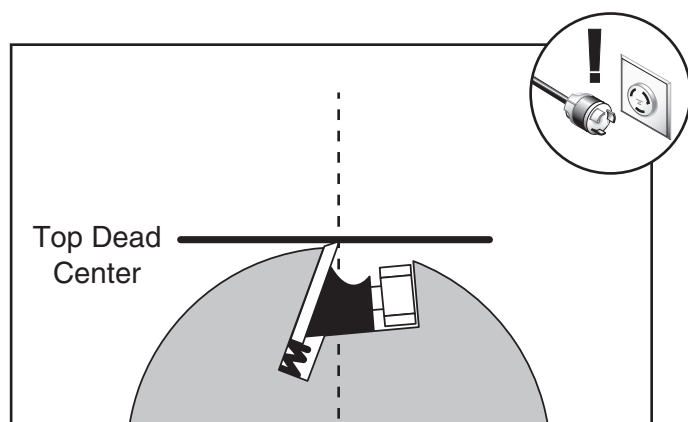

Figure 11. Cutterhead knife at top-dead-center.
3. Open the motor access panel and rotate the cutterhead pulley until one of the knives (or carbide inserts) is at top-dead-center (TDC), as illustrated in **Figure 11**.